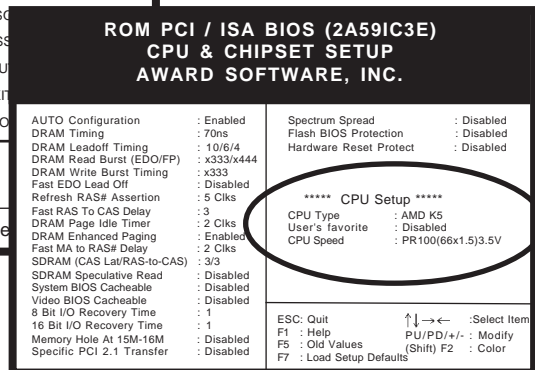

Figure 2-5
- Leave User's Favorite function disabled (default) and choose the correct CPU speed from the speeds available. See Figure 2-5. If you use this method, SeePU will set a default voltage of 3.3v for single voltage CPUs and 2.8/3.3v for dual voltage CPUs.